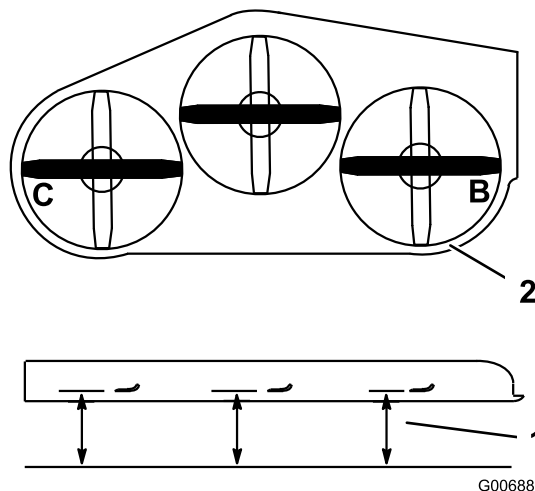

Figure 88
4. Measure at the **B** and **C** locations from a level surface to the cutting edge of blade tips (Figure 88).